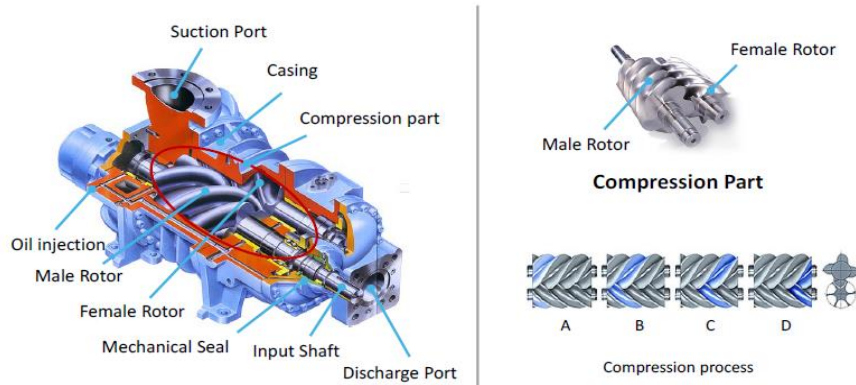

Fig. 3.41 Rotary-screw (twin-screw) compressor (a) Cut-away view (b) theory of operation
- c) Rotary-Screw Compressor – A rotary-screw compressor uses rotating rotors to compress larger volumes of gaseous refrigerant to high pressures and temperatures. The compression process involves male and female rotors that decrease the volume of the refrigerant gas as they rotate. The cool vapor refrigerant enters through the suction port and is driven through the meshing rotors via the screw threads. The refrigerant is then expelled at the discharge port with increased pressure and temperature. Rotary-screw compressors can be classified based on the number of screws: single, twin, or multi. Figure 3.41(a) shows a cut-away section of a rotary-screw compressor, while Figure 3.41(b) illustrates the operational theory.